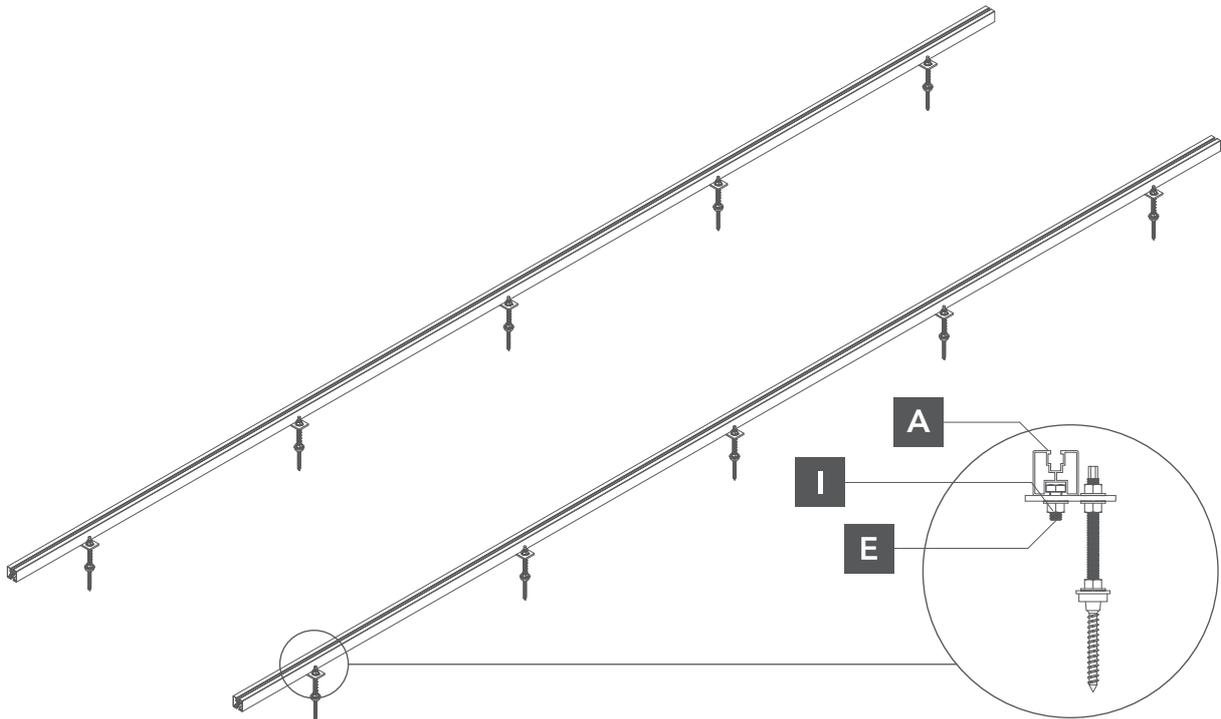

Fig. 6. fastening the mounting rail to the mounting adapter
- 5** Then you should insert the M10x25 DIN6923 hexagon bolt through the end of the mounting rail, align it with the mounting adapter and fasten it with the DIN6923 M10 threaded nut (Fig. 6).